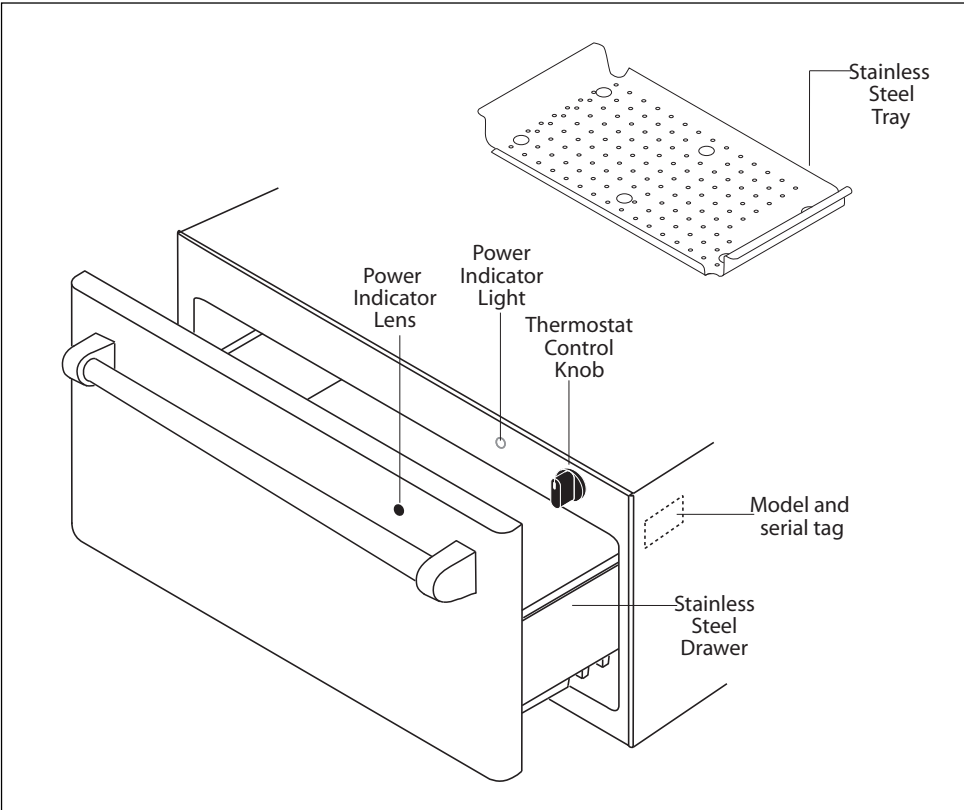

Fig. 01
4. KNOB: The on/off/ temperature knob may be removed to be cleaned. See Figure 01. **Be aware that the pull off force will decrease and a loose knob could become a choking hazard for small children.**